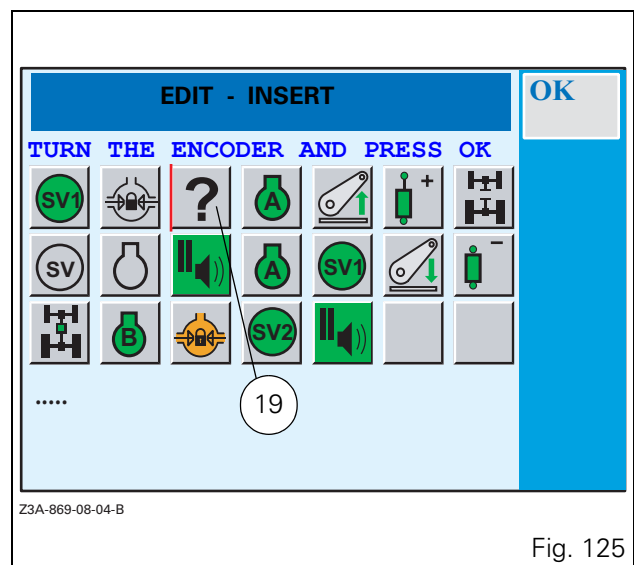

Fig. 125
- Validate either by pressing the encoder, or by pressing key <<1. An icon with a question mark is inserted. (e.g.: 19 Fig. 125).